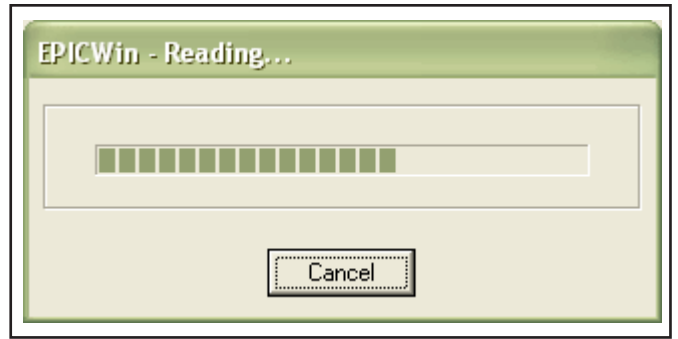

Figure 7.
3. While the USB Programmer is connected click on  Read button to download the program from the Arjent S2 interface module. A message box will appear in the center of the screen telling the progress for the downloading. See figure 7.